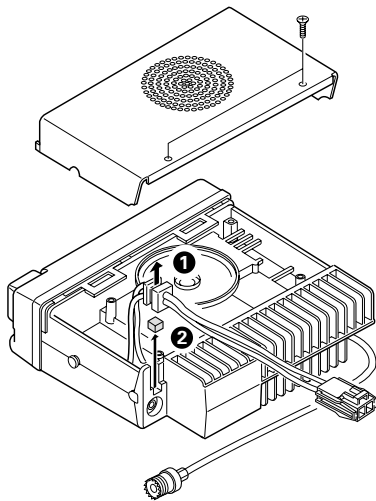
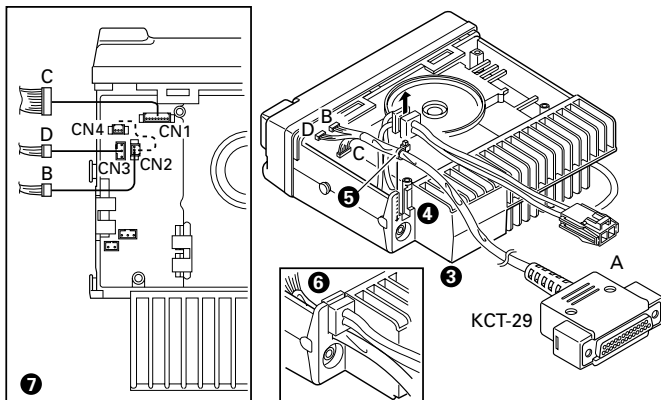

Fig. 5
Fig. 6
2. Lift the DC cord bushing ( ❶ ) from the chassis.
3. Remove the pad as shown in Figure 5 ( ❷ ).
4. Insert the KCT-29 cable ( ❸ ) into the chassis ( ❹ ). The wire harness band ( ❺ ) must be inside the chassis.
5. Replace the DC cord bushing ( ❻ ).
6. Connect the KCT-29 to the TX-RX unit (A/2) as shown in Figure 6 ( ❼ ).